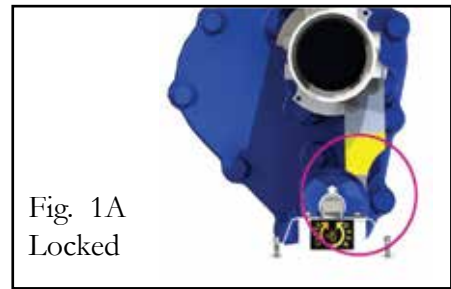

Fig. 1A
1. Make sure that the Air Valve Assembly is in the locked position (the yellow indicator plate is positioned to the right of the gear box) - see Fig. 1A. Locking is carried out by holding the Frame (3) and rotating the Air Valve Assembly in a counterclockwise direction.
2. Open the Disc Valve (8) by fully turning the Operator Rod (4) in a counterclockwise direction.